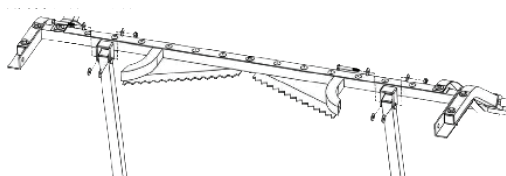
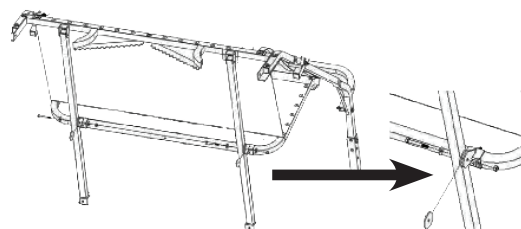

Figure 22
Figure 23
STEP 7: Install the two (2) vertical supports. NOTE: All seat hinge discs point to the right side on the stand as shown in Figures 23 & 24. Use two (2) 2" bolts, eight (8) washers, and two (2) locknuts as shown in Figure 22. Connect the vertical supports to the tree blade before connecting to the seat hinges. Make certain to install washers under the head of each bolt, between the bracket, the vertical support, and under the locknuts as shown in Figure 22.
STEP 8: Connect the two (2) seat hinges to the vertical supports using two (2) 2" bolts, four (4) washers, two (2) black Teflon washers, and two (2) locknuts as shown in Figure 23.